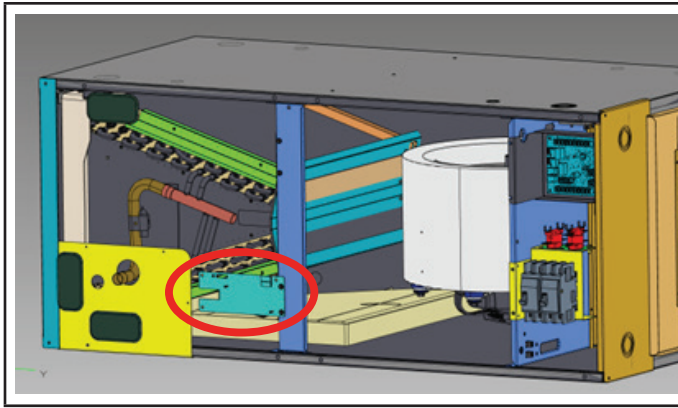

FIGURE 8
- 3 - With air handler unit panels removed, install sensor bracket assembly to the unit by lining up holes in the center support bracket as shown in FIGURE 8. Note: sensor should be facing toward the inside of the unit.